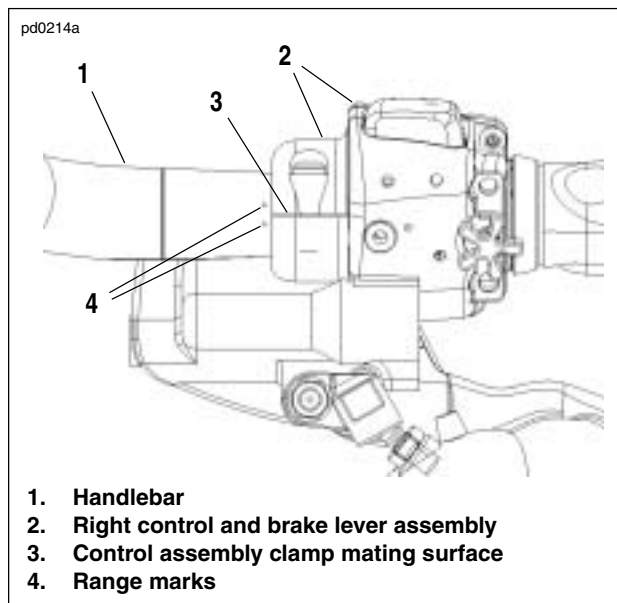

Figure 7-32. Right Handlebar Control Assembly (Bottom View)
2. See Figure 7-32. Range marks (4) are located on bottom of handlebar adjacent to brake lever clamp assembly. Rotate right control and brake master cylinder assembly (2) **slightly** for most comfortable position. Make sure control assembly is positioned so that clamp mating surface (3) is located in area between range marks.